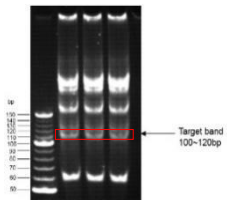

Figure 1 Gel electrophoresis of PCR products
- Run the electrophoresis at 185 V. Terminate the run when the blue dye reaches the bottom of the gel. Stain the gel with GelStar™ Nucleic Acid Gel Stain for 10 min. Capture image with a gel imaging system (see Figure 1).